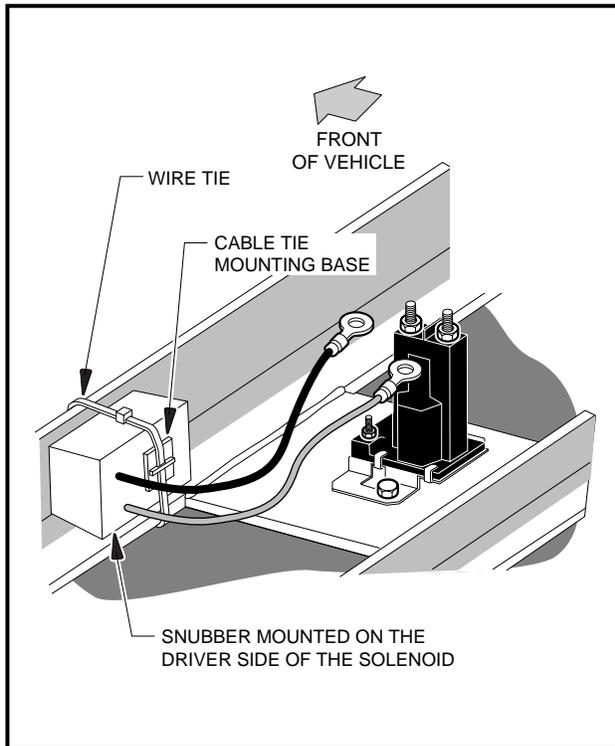

Figure 12-4 Mount Solenoid
1. Position the solenoid with the small posts toward the front of the vehicle and install one of the mounting screws through the driver side hole on the solenoid base and into the corresponding hole in the mounting plate (**Figure 12-4, Page 12-5**). Tighten screw to 50 in.lb (7.3 N-m).
2. Install passenger side screw and tighten to 50 in.lb (5.6 N-m) (**Figure 12-4, Page 12-5**).
4. Attach snubber assembly to frame on either the passenger or the driver side of the solenoid using a wire tie and cable tie mounting base (Figure 12-4, Page 12-5).